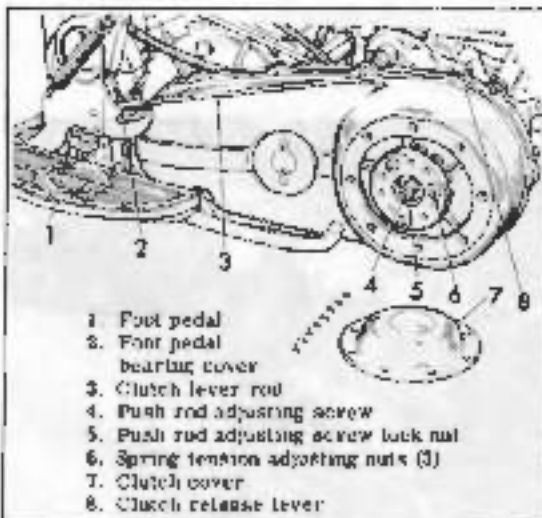

Figure 4B-1. Adjusting Foot Clutch Control (1964 model shown)
ADJUSTING FOOT CLUTCH CONTROL (Fig. 4B-1)
ADJUSTING HAND CLUTCH CONTROL (1964 AND LATER MODELS); FIG. 4B-1A
Loosen control coil adjusting sleeve lock nut (3) (Fig. 4B-1A) and turn control coil adjusting sleeve (3) all the way into bracket. Remove chain housing cover, loosen clutch push rod screw lock nut (4) and turn screw (5) in (clockwise) to move lever (8) to the rear, or outward (counterclockwise) to move end of lever forward. When 1/2 inch clearance between lever and starter motor has been attained, tighten lock nut (4) and reinstall chain housing cover.